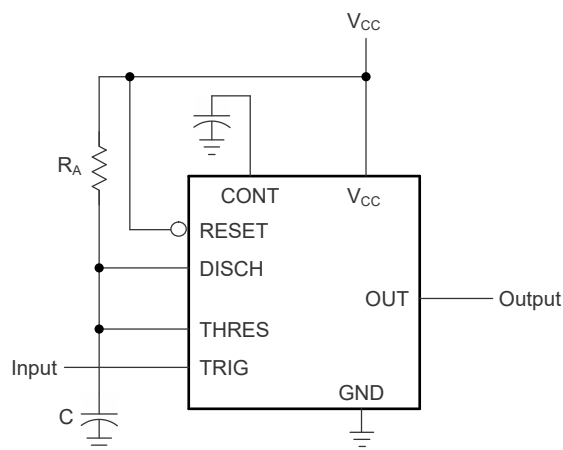
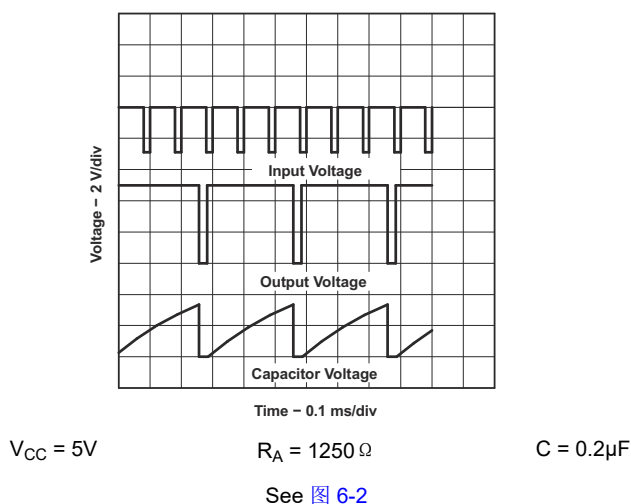

图 6-2. Circuit for Monostable Operation
图 6-8. Divide-by-Three Circuit Waveforms
(1) For conditions shown as MIN or MAX, use the appropriate value specified under *Recommended Operating Conditions*.
(2) Values specified are for a device in a monostable circuit similar to 图 6-2, with the following component values: $R_A = 2k\Omega$ to $100k\Omega$, $C = 0.1 \mu F$.
For monostable operation, 图 6-2 shows how to connect any of these timers. If the output is low, application of a negative-going pulse to the trigger (TRIG) sets the flip-flop ($\bar{Q}$ goes low), drives the output high, and turns off Q1. Capacitor C is then charged through R_A until the voltage across the capacitor reaches the threshold voltage of the threshold (THRES) input. If TRIG has returned to a high level, the output of the threshold comparator resets the flip-flop ($\bar{Q}$ goes high), drives the output low, and discharges C through Q1.
图 6-5 shows that adding a second resistor, R_B , to the circuit of 图 6-2 and connecting the trigger input to the threshold input causes the timer to self-trigger and run as a multivibrator. Capacitor C charges through R_A and R_B and then discharges through R_B only. Therefore, the duty cycle is controlled by the values of R_A and R_B .
By adjusting the length of the timing cycle, the basic circuit of 图 6-2 can be made to operate as a frequency divider. 图 6-8 shows a divide-by-three circuit that makes use of the fact that retriggering cannot occur during the timing cycle.